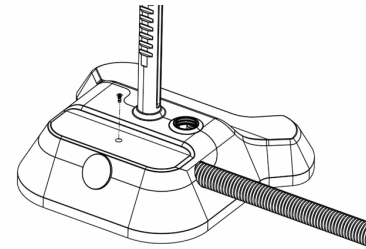

Figure 22. Plastic Cover of the Dispenser
- b. Place the stand back in an upright position. Remove the dispenser stand base cover by unscrewing the M3 Torx screw from the top of the base and lifting the edges of plastic cover away from the rest of the base (see **Figure 22**).